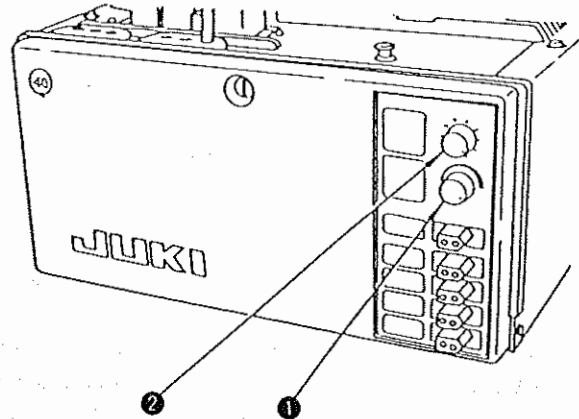

Fig. 3-9
speed limitation switch (Fig. 3-9 ②, replaces the max. speed limitation based on pulley change) and the maximum speed limitation knob (Fig. 3-9 ①, same as the conventional max. speed control knob). The maximum speed limitation switch functions to limit only the maximum speed without changing the relationship between the sewing speed and pedal stroke (hereinafter referred to as "acceleration"). The maximum speed limitation knob functions to limit the maximum speed by controlling the acceleration. A value set using ① or ②, whichever is smaller, is adopted for limitation.